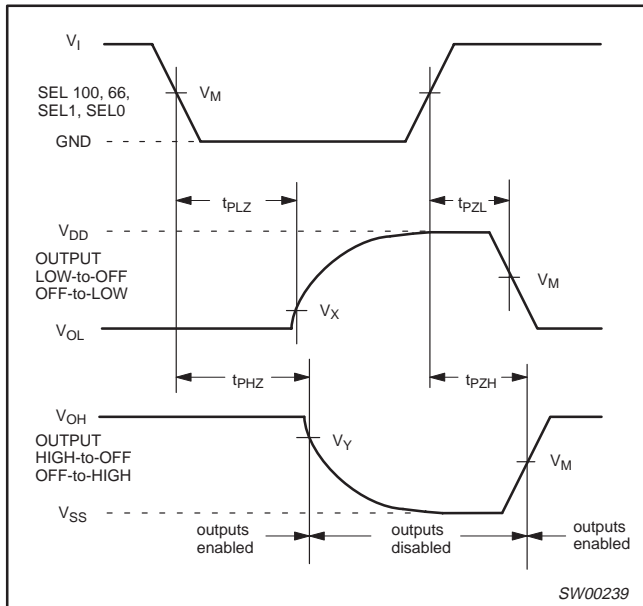

Figure 4. 3-State enable and disable times.
5.  $T_{HKH}$  is measured @ 2.0V as shown in Figure 4.
6.  $T_{HKL}$  is measured @ 0.4V as shown in Figure 4.